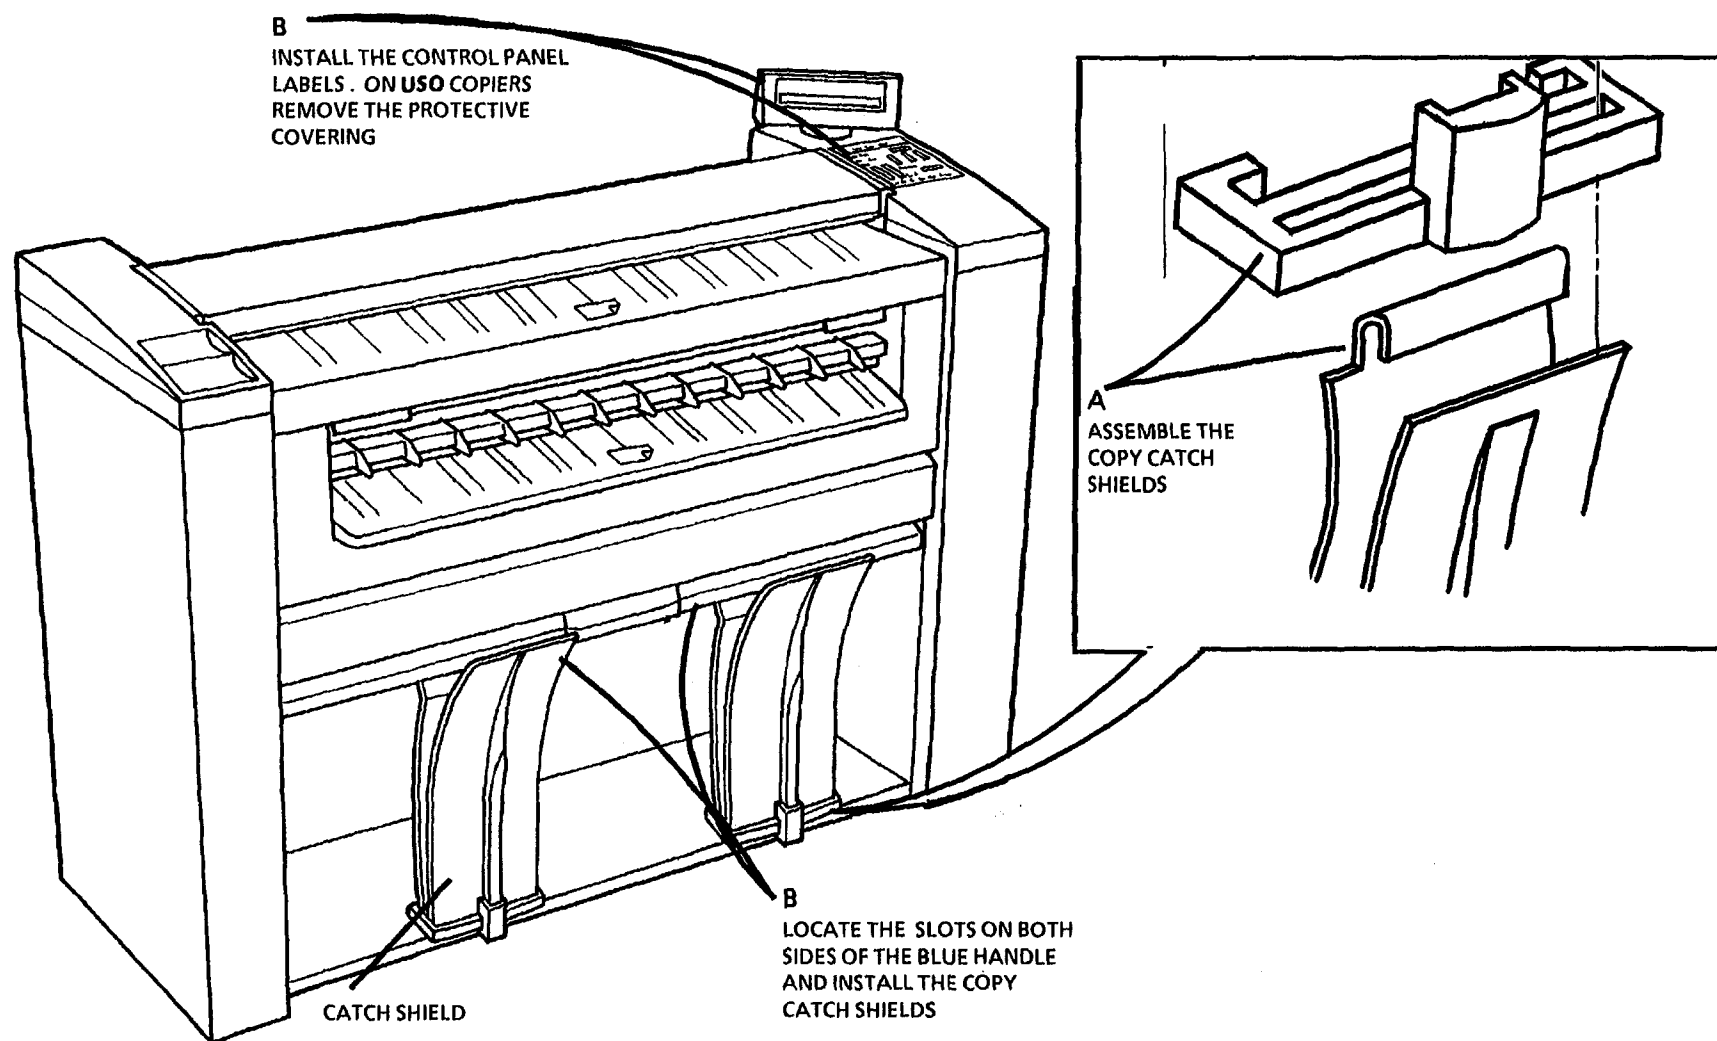

Figure 25. Install the Copy Catch Shields
34. (Figure 25): Install the Copy Catch Shields.